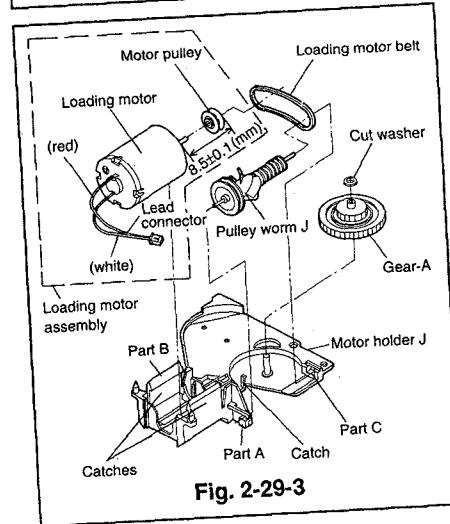
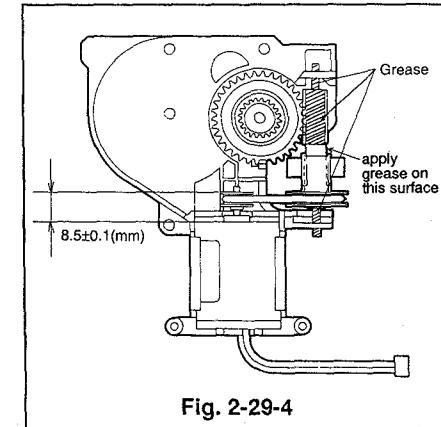

Fig. 2-29-3
Fig. 2-29-4
Remove the loading motor belt from the motor pulley. (Refer to Fig. 2-29-3.)
Unfasten the catches holding the motor holder to remove the loading motor assembly. (Refer to Fig. 2-29-3.)
① Remove the pulley worm J, first the end attached to the part A shown in Fig. 2-29-3 and then the other end.
② Remove the cut washer and unfasten the catch holding Gear A. Remove Gear A.
③ Pull the motor pulley to remove it from the loading motor.
④ Disconnect the wires from the loading motor.
① Solder the leads to the loading motor. (Red lead wire to the positive terminal and white lead wire to the negative terminal.)
② Install the motor pulley on the loading motor so that the space between the loading motor and the outer edge of the motor pulley is $8.5\pm0.1\text{mm}$. (Refer to Fig. 2-29-4)
③ Install the loading motor assembly so that the label on it faces part B, shown in Fig. 2-29-3.
④ Apply grease (G)[859D055O50] to the areas shown in Fig. 2-29-4 of the new pulley worm J. Install the pulley worm J, first the end attached to the part C shown in Fig. 2-29-3 and then the other end.
⑤ Fix the gear A to the shaft of the motor holder J and secure it with new cut washers.
⑥ Lift the end attached to the part A shown in Fig. 2-29-3 of the pulley worm J. Fasten the loading motor belt on the pulley worm J and the motor pulley, taking care not to twist the belt.